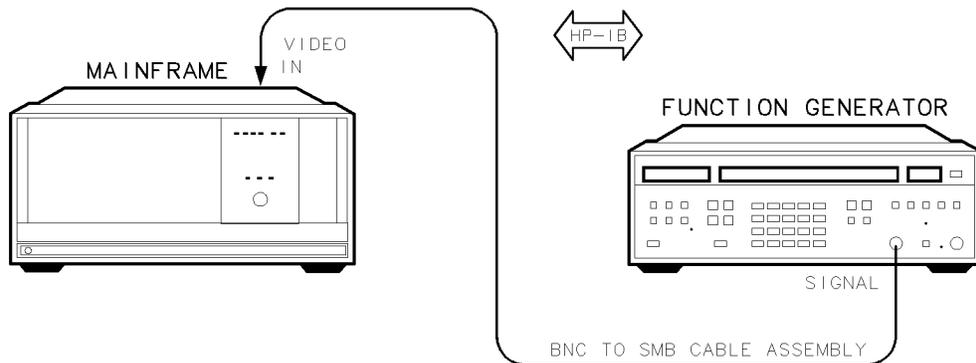

Figure 7-11. Video Detector Tracking Test Setup
1. Connect the HP 3325B synthesized function/sweep generator's SIGNAL output to the DUT's rear panel VIDEO IN jack using the BNC-to-SMB cable assembly, as shown in Figure 7-11.